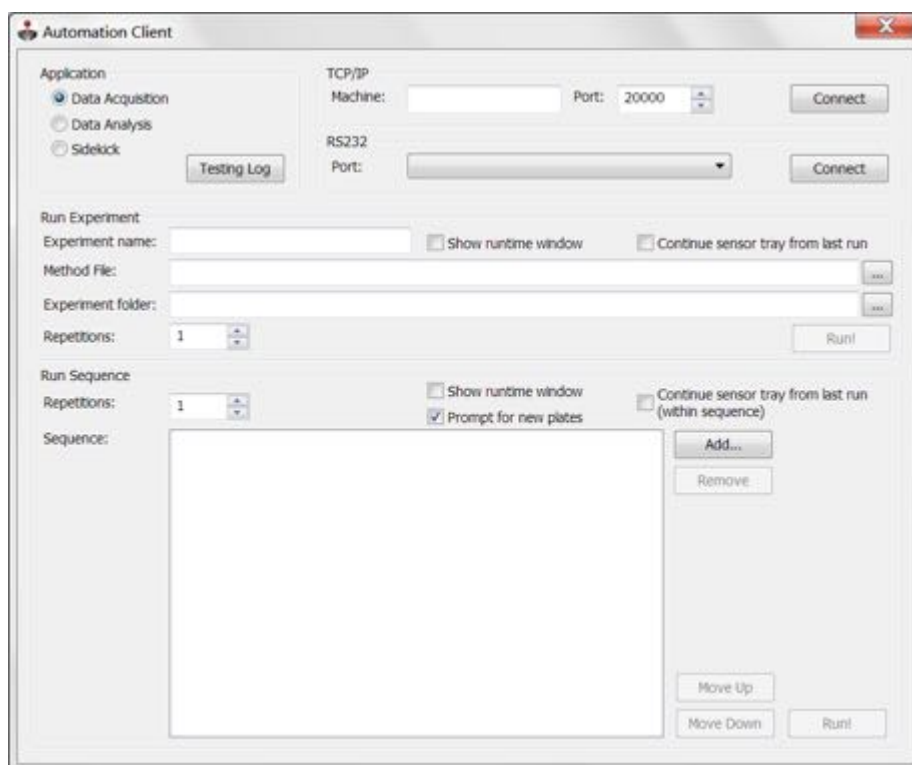

Figure A-2: Automation Client Window
3. Launch **AutomationClient.exe** located in the C:\Program Files\ForteBio\DataAcquisition directory to display the **Automation Client** dialog box (Figure A-2).